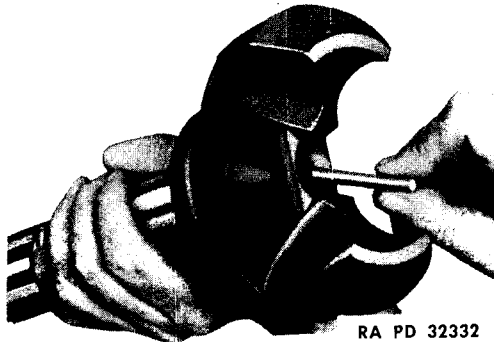

Figure 14—Installing Center Ball Retainer Pin
(4) ASSEMBLE AXLE SHAFT UNIVERSAL JOINT (figs. 14 and 15).